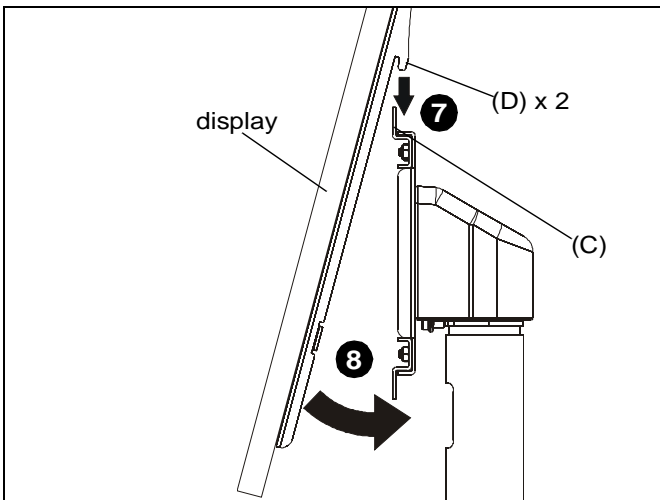

Figure 7
7. Hang display onto top rail of table stand interface (C) using hooks on top of vertical interface brackets (D). (See Figure 7)
8. Gently set back of display against lower rail of table stand interface. (See Figure 7)